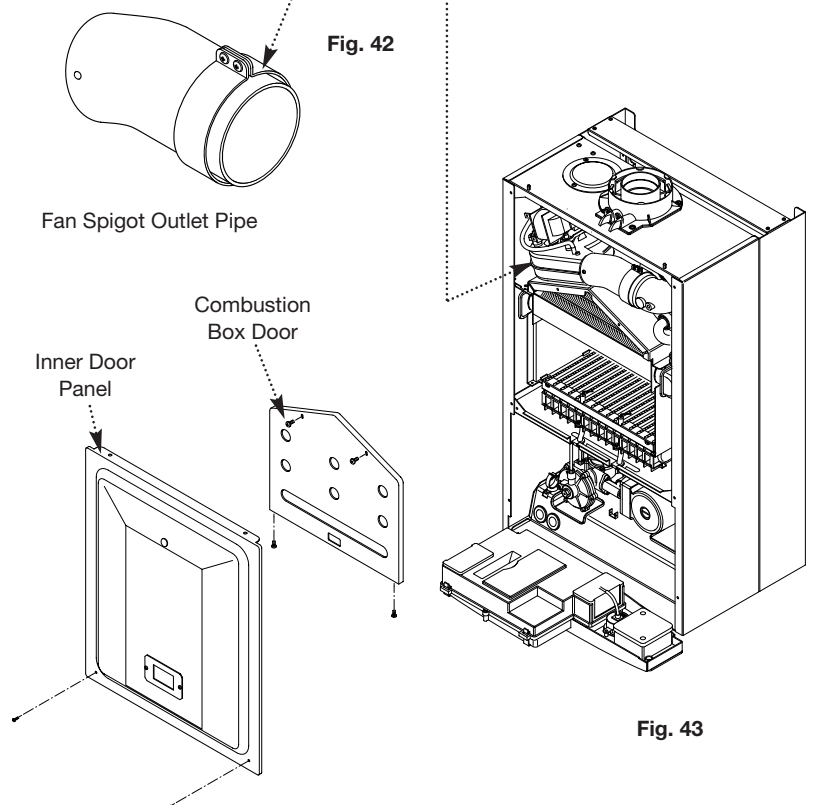

Fig. 43
6. Remove the screws securing the inner door panel. Lift the panel slightly to disengage it from the studs on top of the case (Fig. 43).
9. Remove the four screws securing the combustion box door and remove the door (Fig. 43).